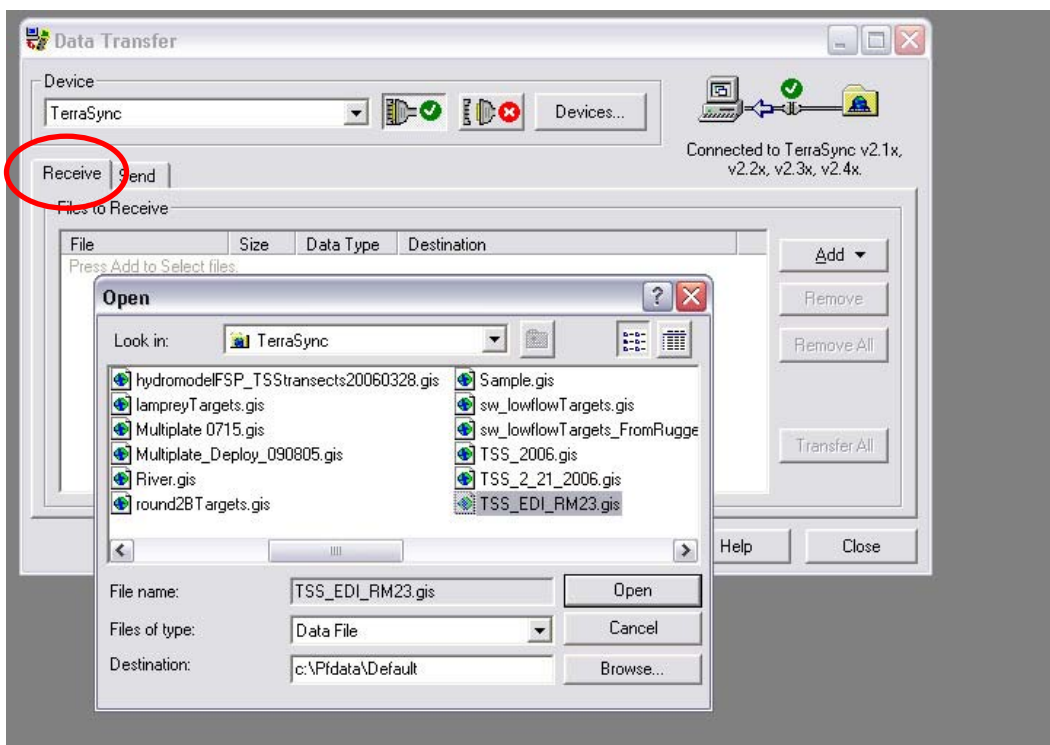

Figure 1. Transferring File from Terrasync
Connect the TSC1 to your computer using the appropriate cables. In addition to the “pigtail” cable, you will also need a null modem (a 9-pin female-to-female cable) to plug into a PC serial port. Once connected, power up the TSC1 unit and navigate to *MENU>File Manager>File Transfer*. Then, open the Pathfinder software and navigate to the *Utilities>Data Transfer...* window from the menu bar. Select **GIS Datalogger** on COM1 (for most computer systems), and press the green **Connect** button. Download files from the TSC1 by selecting the **Receive** tab and choosing the data file type from the *Add* pulldown menu (Figure 1).
2. Click the **Devices** button, and then **New...** (Figure 1).